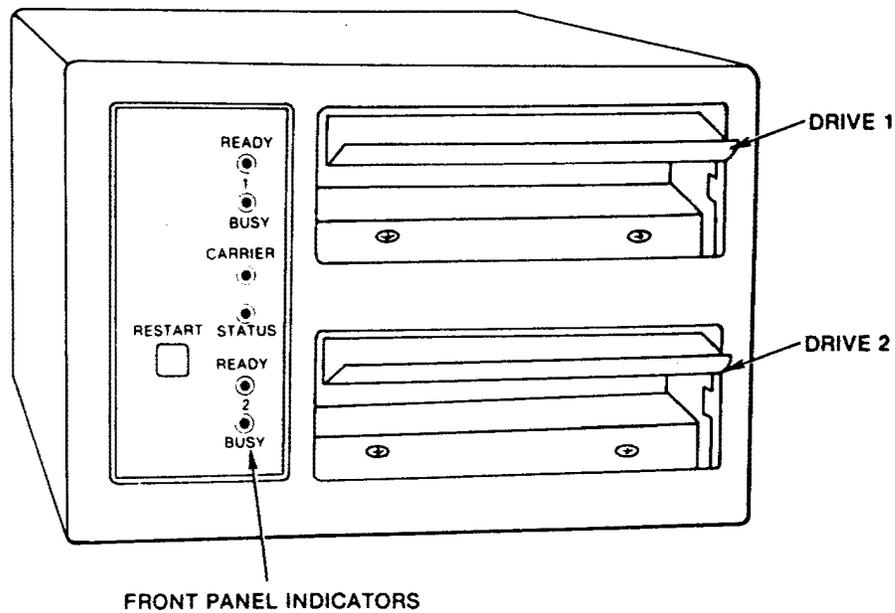

Fig. 3 - Front View of the Comm-Stor II Unit
2.03 The front panel of the Comm-Stor II unit has several indicators to assist the user. The function of each indicator (Fig. 3) is as follows: